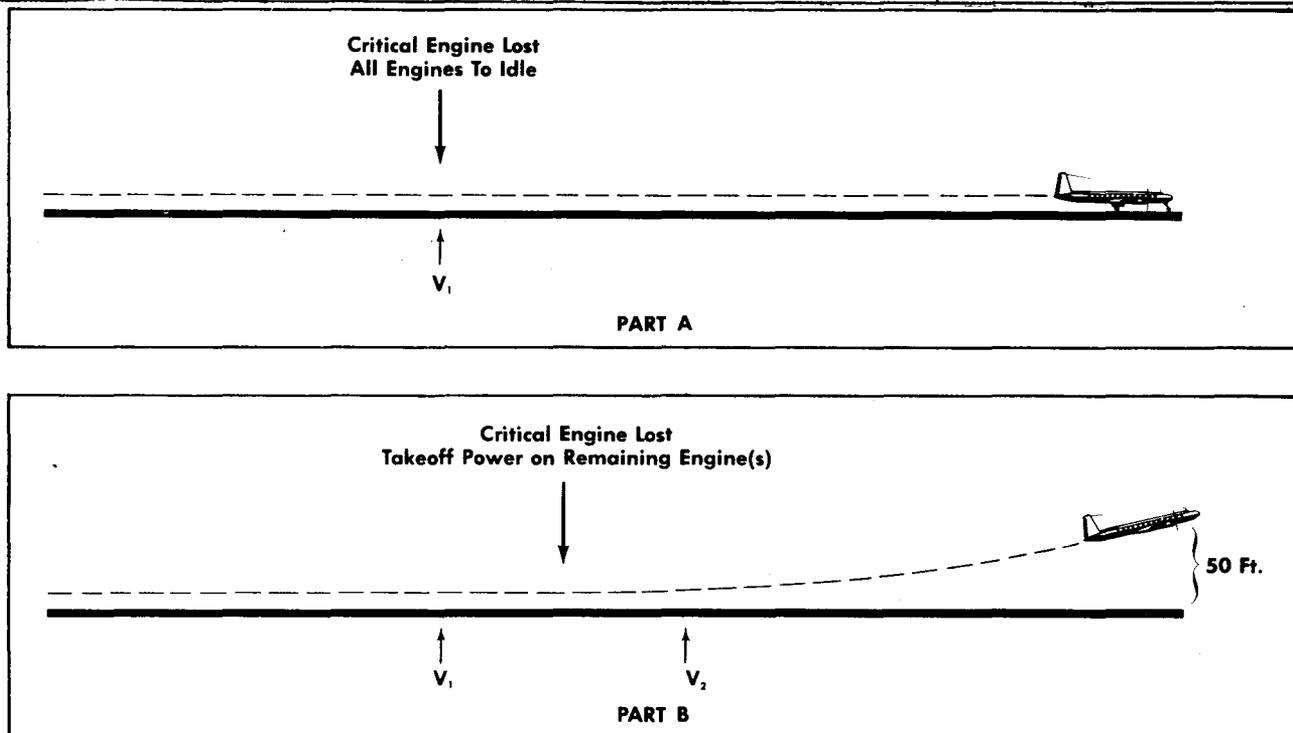

Fig. 11-2 - Minimum Takeoff Runway Length
The minimum takeoff runway length is designed to afford a margin of safety in the event of engine failure. Part (A) in Figure 11-2 which corresponds to part (a) in the definition above, shows an airplane being brought to a stop on the runway after losing the critical engine at the V_1 speed. Part (B) in Figure 11-2, which corresponds to part (b) in the definition above, shows the airplane losing the critical engine after V_1 , then accelerating to V_2 and climbing to a 50 foot height.